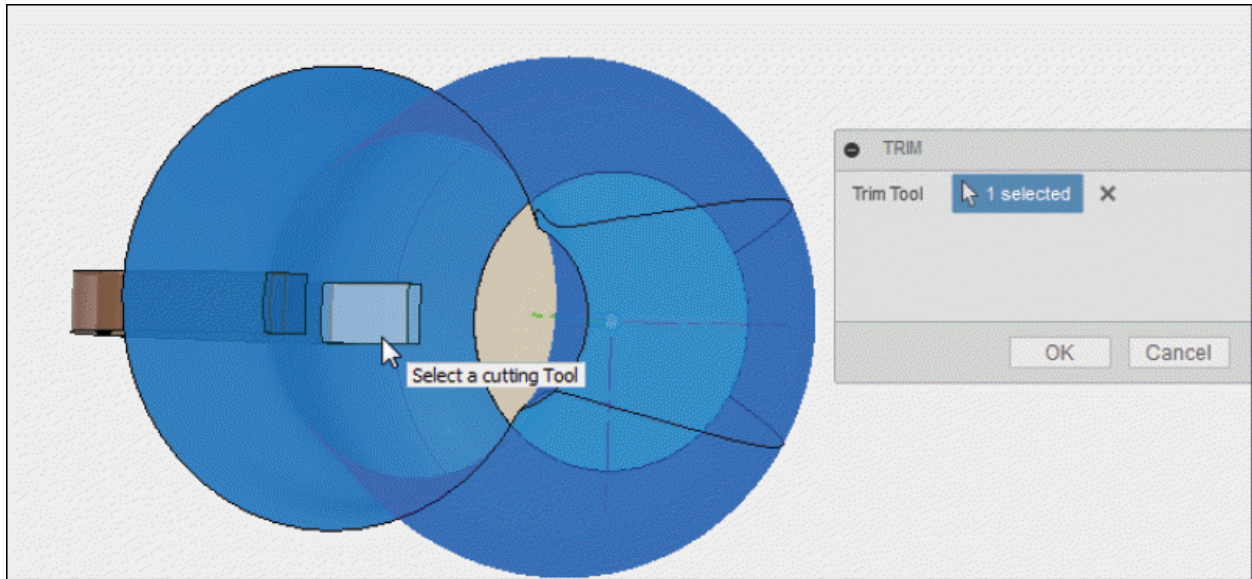

Figure-90. Applying the Trim tool
- The **Select** button of **Trim Tool** section is active by default. Click on the interior of jug and select the unwanted parts; refer to Figure-90.